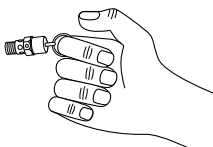

Figure 5
1. Pull ring on safety valve and allow the ring to snap back to normal position (See Figure 5). This valve automatically releases air if the tank pressure exceeds the preset maximum.